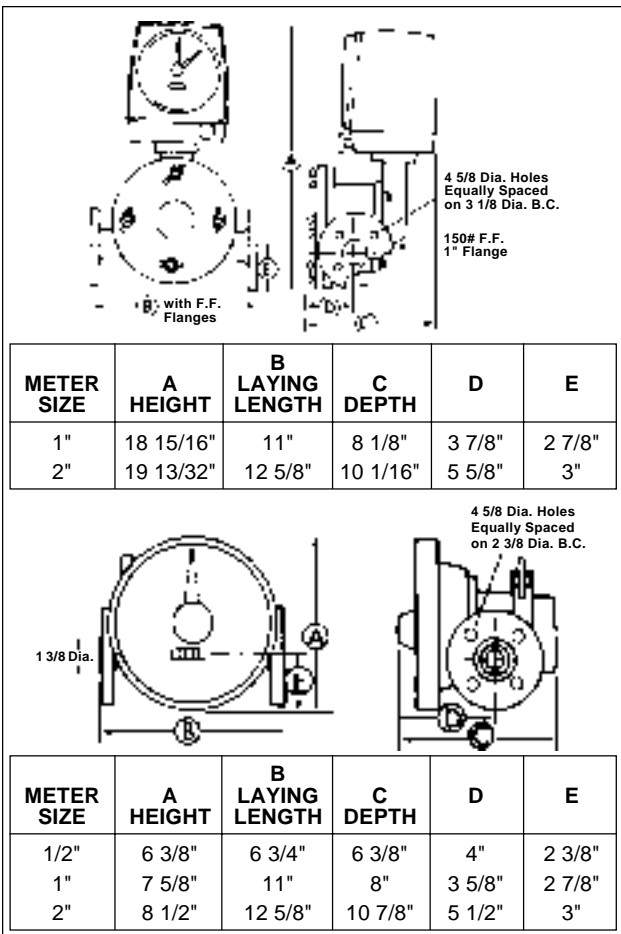

Figure 2-2.
**B. INSTALLING THE METER.** The oscillating piston meters are designed for in-line installation. Examples of dimensions of the meter models, including laying lengths, are shown in Figure 2-2. After reviewing the applicable dimension requirements, perform the following procedures: